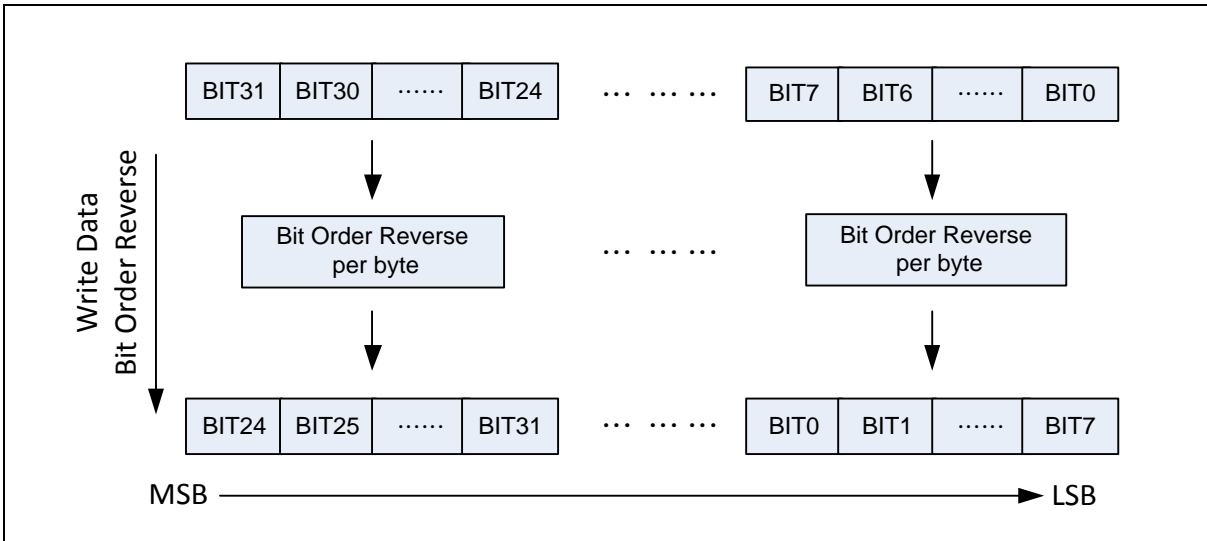

Figure 6.23-3 Write Data Bit Order Reverse Functional Block
- Configure bit order reverse for CRC write data per byte by setting DATREV (CRC\_CTL[24] Write Data Bit Order Reverse). The functional block is also shown in Figure 6.23-3.